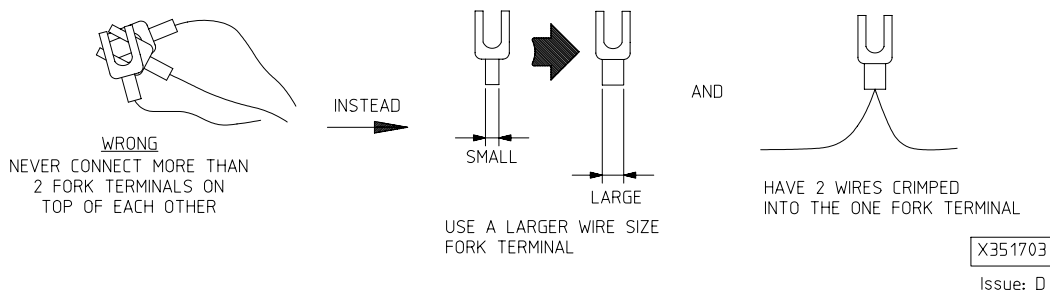

Figure 2.
For all cases it is important to make sure there are no more than two (2) fork terminals fitted under the screw of a terminal block. This is not only to ensure a snug fit but also to decrease the risk of a poor electrical connection. Refer figure 2 for details.